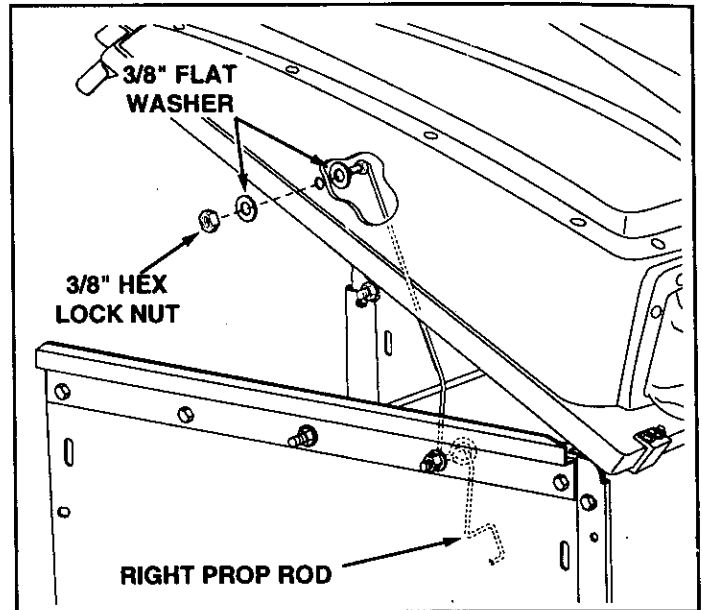

FIGURE 18
- Mount the hard top to the cart by inserting the hinges into the slots in the front panel of the cart. See figure 18.
- Place a 3/8" flat washer onto the end of the right prop rod and insert the rod into the lower hole in the side of the hardtop. Assemble a 3/8" flat washer and a 3/8" hex lock nut onto the rod on the outside of the hard top. **Tighten** the nut and then loosen 1/2 turn. See figure 18. Repeat for the left prop rod.